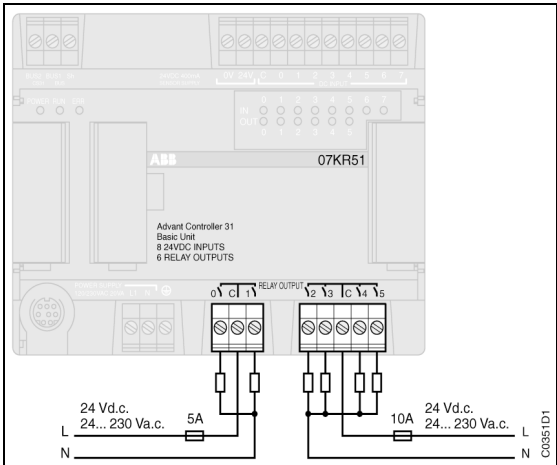
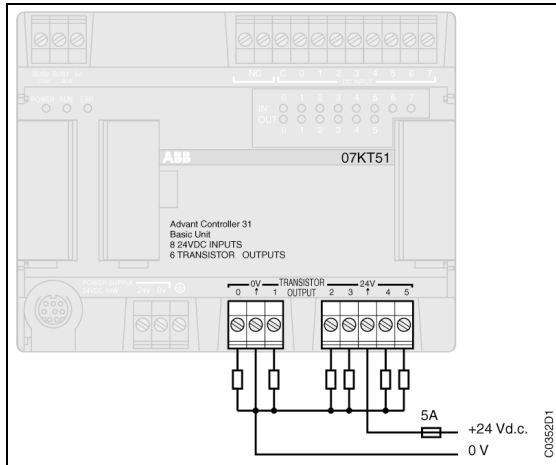

Figure 4-16 : Relay outputs
Figure 4-17 : Transistor outputs.
- Output cabling: see Figure 4-16 and Figure 4-17.